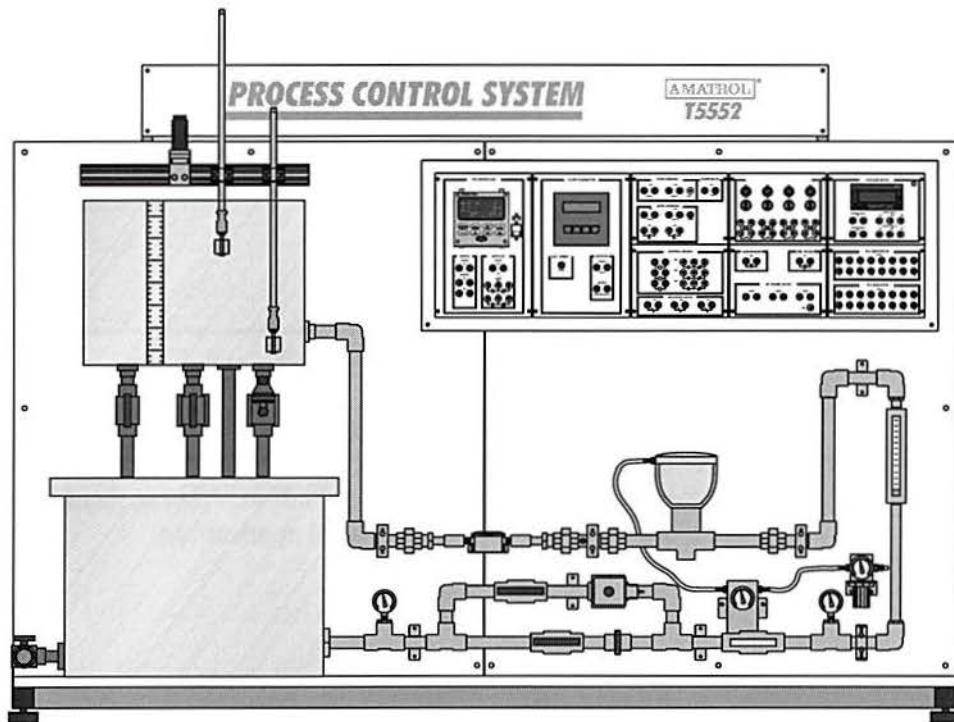

Figure 20. The Amatrol T5552 Process Control System
- 1. Locate the T5552 Process Control System, shown in figure 20.